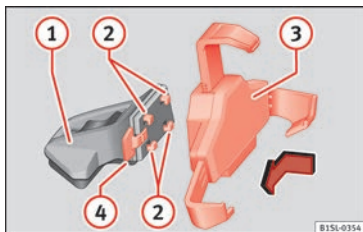
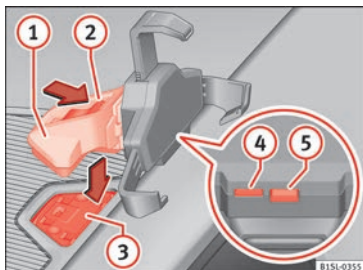

Fig. 134 Assembling the universal support and the holding arm.
Fig. 135 In the centre console: close the compartment where the infotainment system is housed.
- Press the release button **»» Fig. 135 ⑤** until the top arm of the universal holder disengages.
- Place the smartphone on the bottom mountings. To adjust the bottom mountings, press button **»» Fig. 135 ④**.
- Grip the universal holder **»» Fig. 134 ③** and press the release button **»» Fig. 134 ④**.
- Grip the holder arm and **»» Fig. 135 ①** and press the release button **»» Fig. 135 ④** in the direction of the arrow.
- Insert the universal holder **»» Fig. 134 ③** into the slots **②** on the holder **①**.
- Move the universal holder to the side in the locking direction **④** until it engages audibly **»» △**.
- Place the holder arm **»» Fig. 135 ①** in the anchoring plate **»» Fig. 135 ③** from above and press down on it until you hear it engage **»» △**.